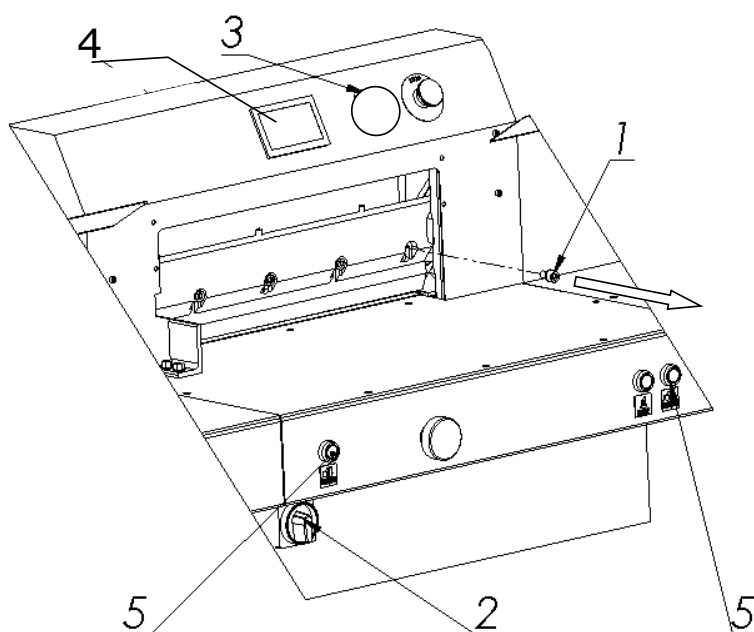

Figure.22
Unscrew and remove the first fastening screw 1 from the right side of the cutter bar (Fig. 22).
8.1.1.5 Switch on the power supply of the electrical system by turning the main switch knob 2 (fig.22) to position "I"
8.1.1.7 On the program screen 4 (fig.22), deactivate the "knife change" function
8.1.2.8 Press the "Change knife" function on the programmer 4 (Fig.22)
8.1.2.20 Switch on the power supply to the control system by pressing the green push button 3 (fig.22).